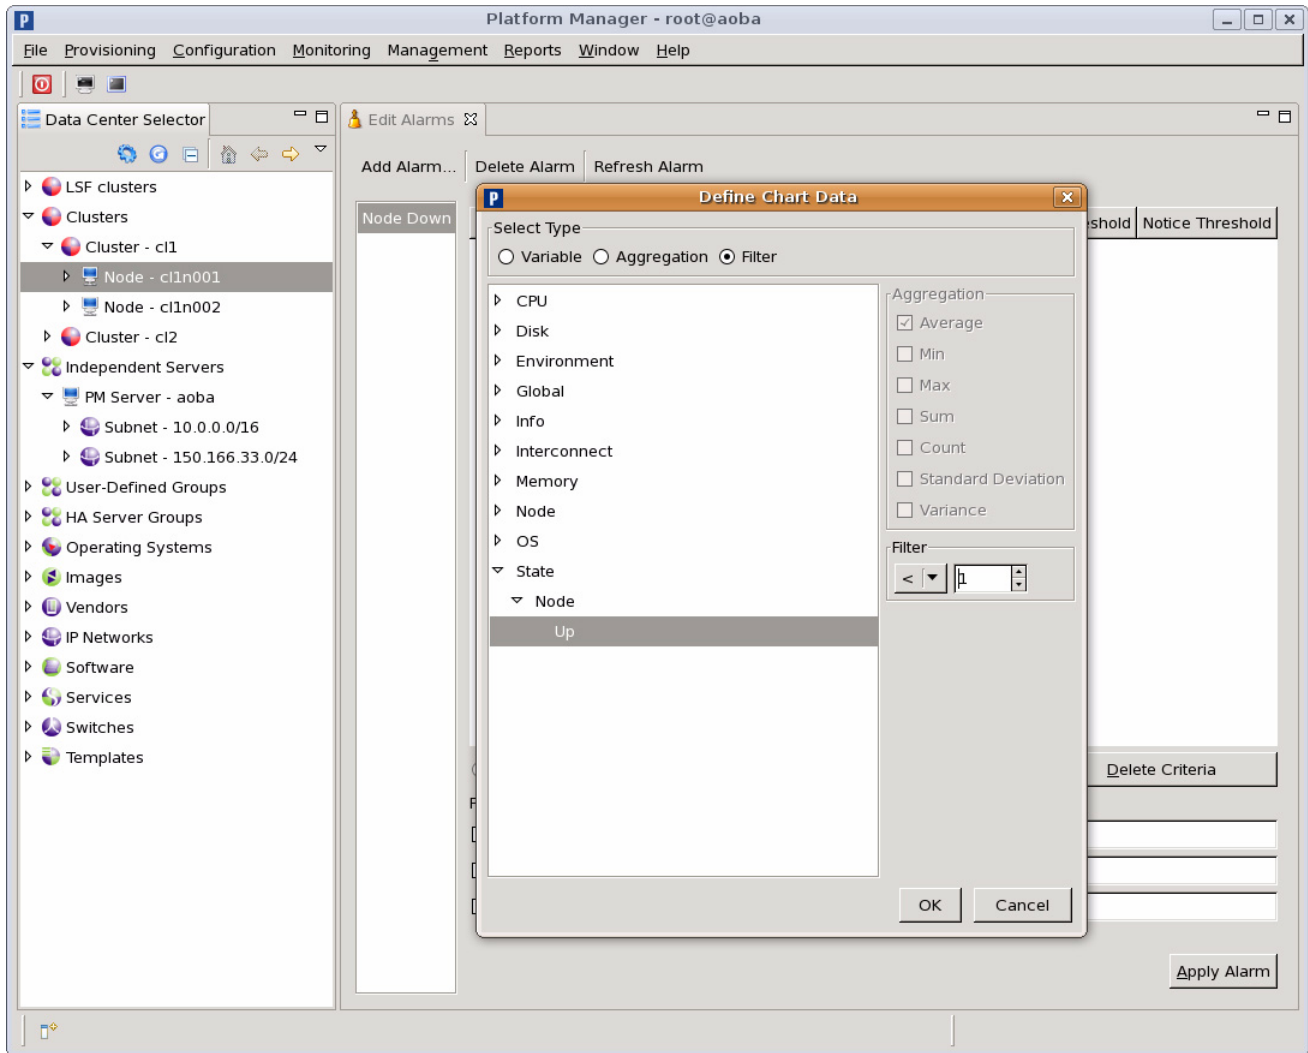

Figure 2-17 Define Chart Data Popup Example (Filter Selected)
- Another popup presents itself. For this example we picked a “Filter” criteria for the node status. See the example in Figure 2-17.